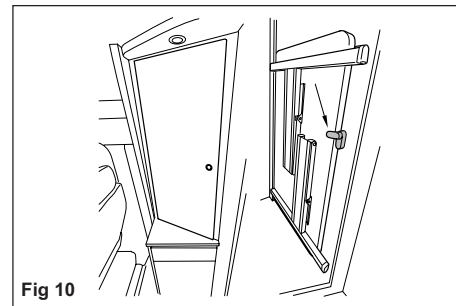

Fig 10
- The freestanding table is stored in the wardrobe. (Fig 10). Release the turnbuckle and remove the table.